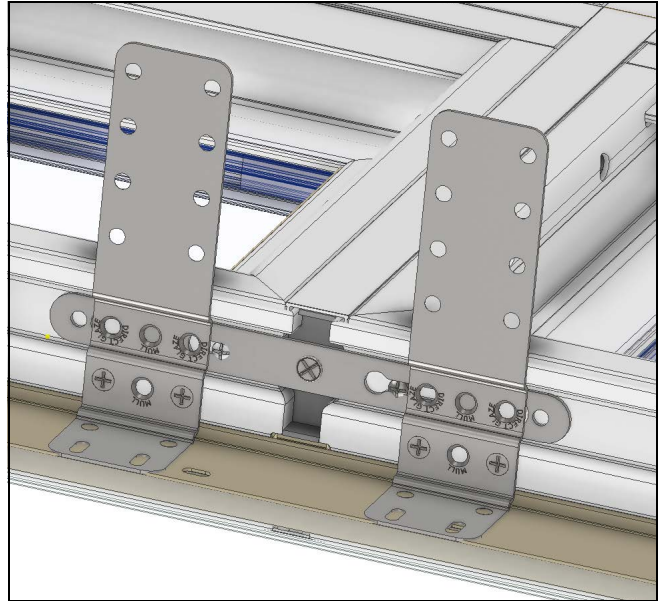

Figure 17
7. Prepare for bracket installation. At the jamb and the head jamb mullion joints, install 90° bent structural brackets on both sides of the mull within 1-1/8" on both ends. Add a bead of construction adhesive under the bracket where screws are to be placed. **DO NOT** apply 90° bent brackets to sill. See Figure 17.